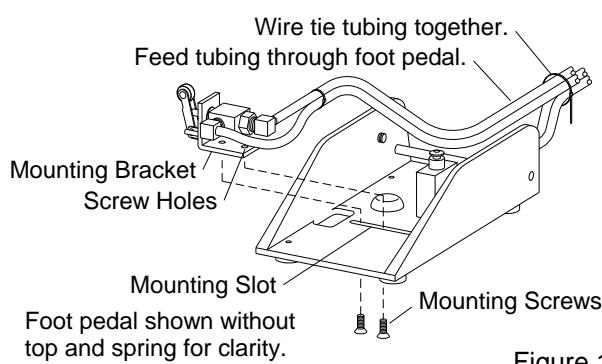

Figure 18
4.3.3 Refer to Figure 18 and feed the urethane tubing through the foot pedal from the front toward the back and above the top hinge pin.